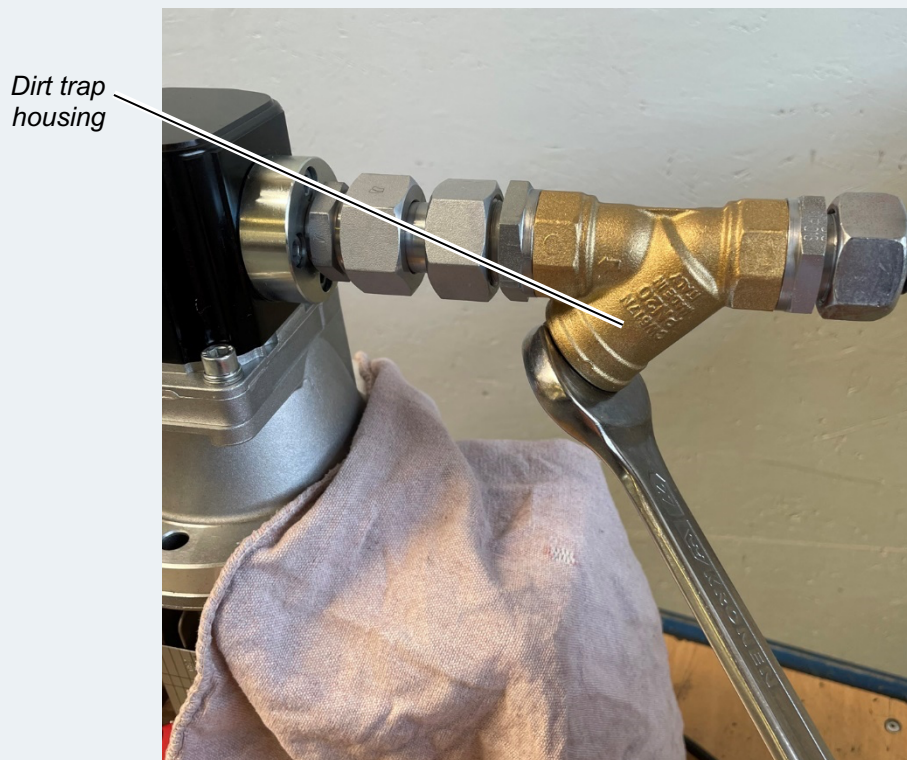

Figure 11: Unscrew the sealing plug on the dirt trap
- ⇒ Unscrew and remove the sealing plug of the dirt trap using a suitable spanner (size: 27 mm) (see Figure 11).